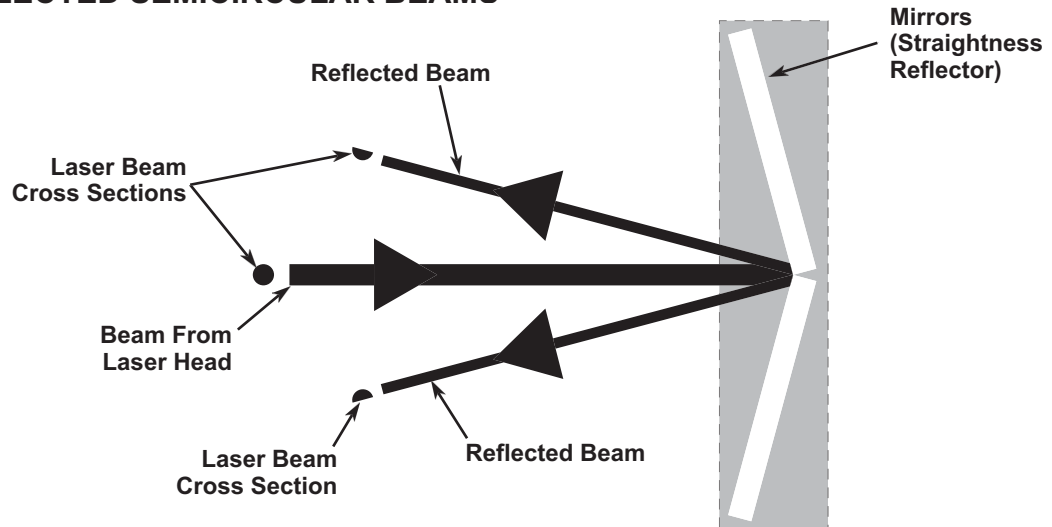

Figure 216 Reflected semicircular beams
- 3 Remove the interferometer from its mount if not already done. Select the large aperture on the laser head by rotating the front turret. The laser beam should strike the center of the reflector. When properly centered the laser beam will be reflected back as two semicircles. See Figure 216.